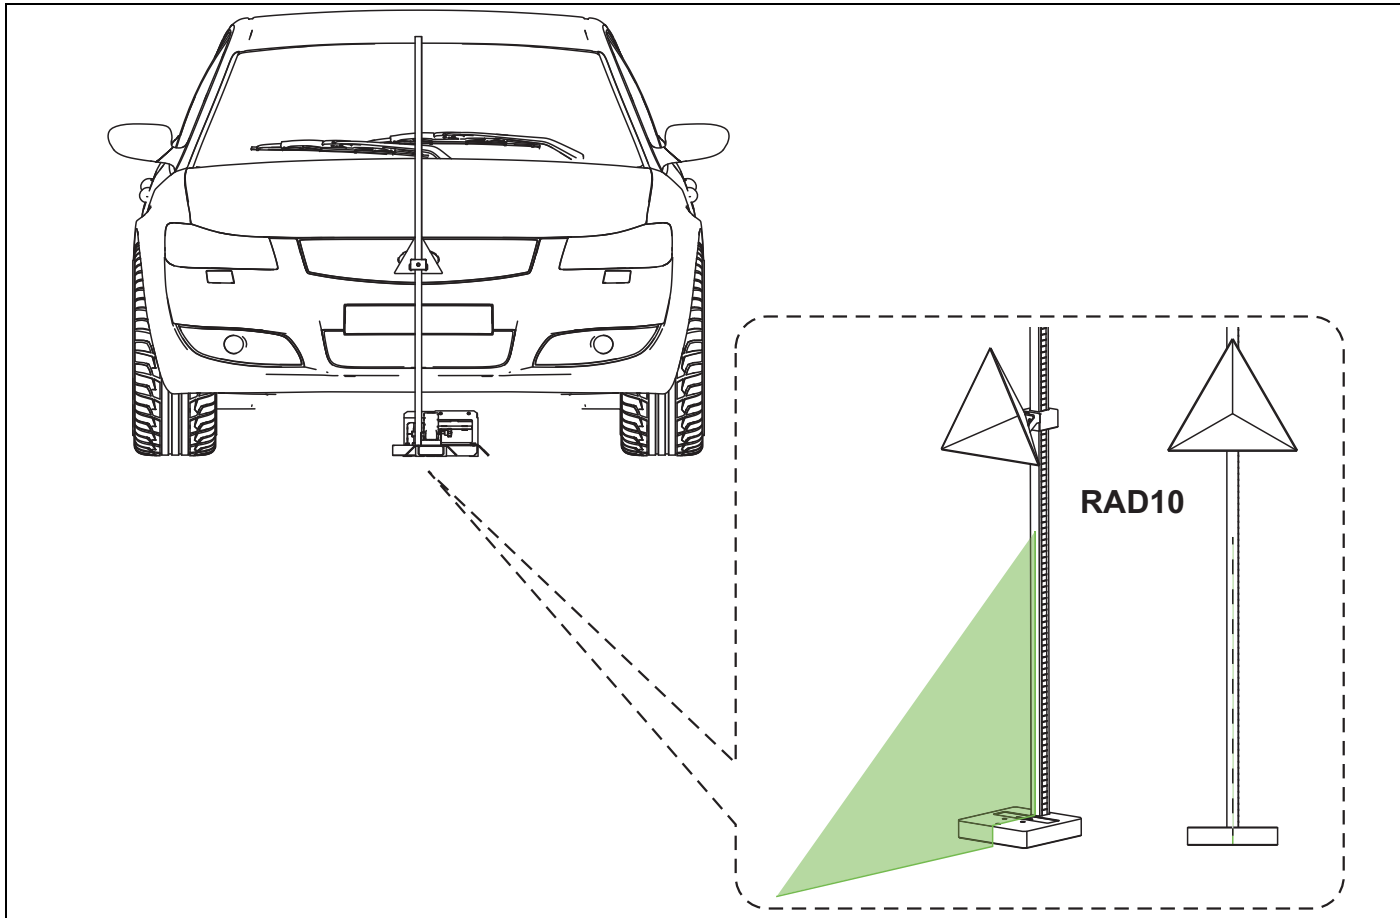
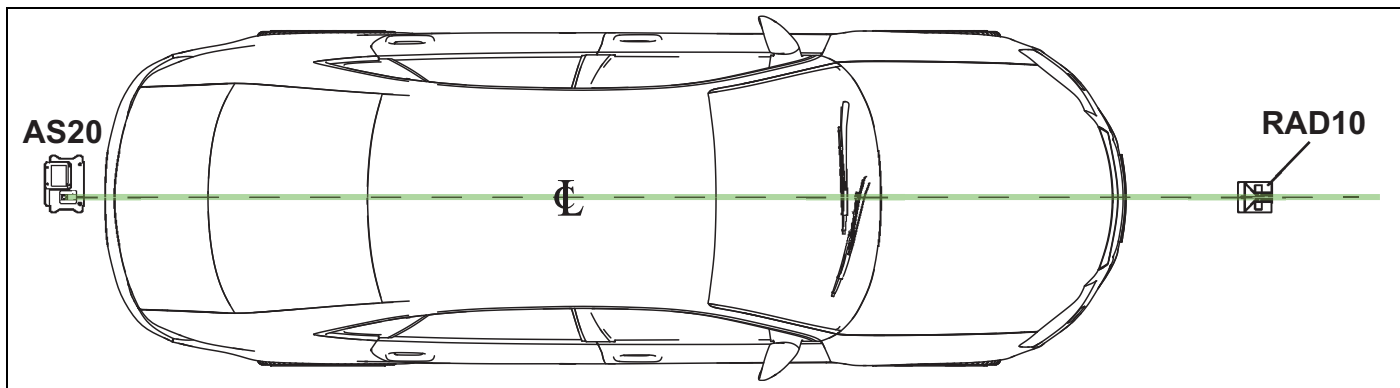

Figure 6-6
Figure 6-7
9. Align the center of the RAD10 radar stand with the AS20 laser from the opposite side of the vehicle (from vehicle centerline setup) (Figure 6-6 and Figure 6-7). The laser should be in the center of the vertical radar stand.